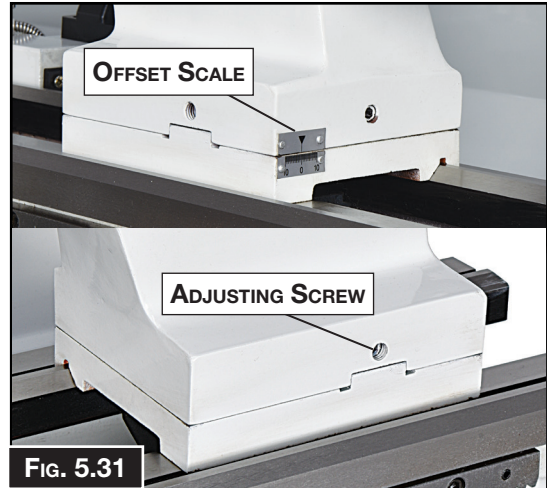

Fig. 5.31
By offsetting the tailstock, the dead centre can hold a work piece off centre from the spindle centerline so tapers and pipe threads can be cut. An offset scale (Fig. 5.31) with increments is located at the rear of the tailstock. However, to achieve exact taper angles, or to adjust the tailstock back into the spindle centerline, angle gauges and a test indicator must be used.
2. Using a hex wrench loosen one of the front or rear adjustment screws shown in Fig. 5.31